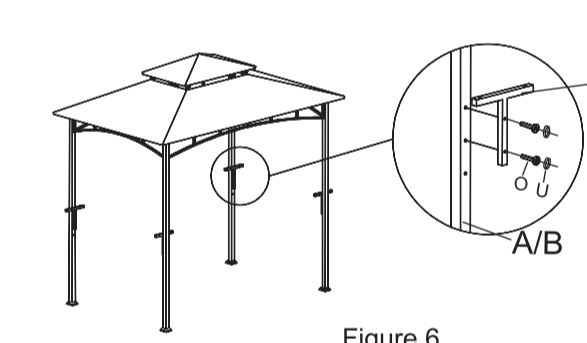

Figure 6
Connect the Shelf Support Frame (J) with the Pillars (A/B), using Bolt (O) and Bolt Cap (U). Repeat this step 4 times to assemble each of the Pillars (A/B) as shown in Figure 6.